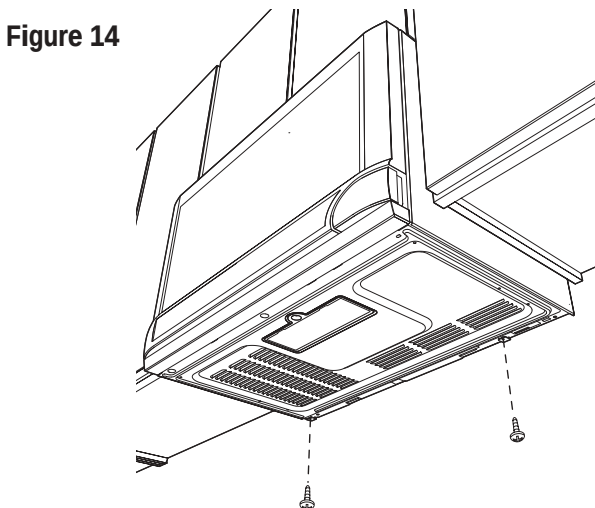

Figure 13
1. Thread the Power Supply Cord through the hole made in the bottom of the top cabinet. Install the oven by snapping it onto the Mounting Plate. See Figure 13.